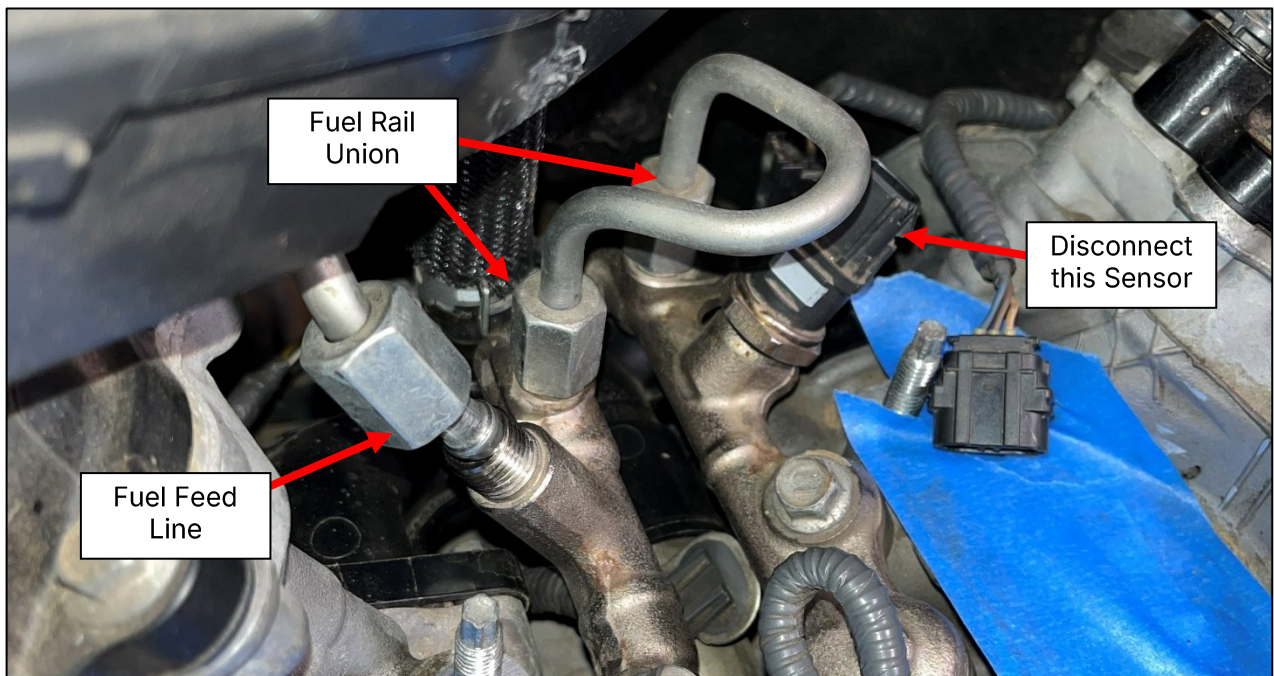

Figure 11
19. Disconnect the Union between both Fuel Rails towards the rear of the Engine. *Figure 11.*
20. Disconnect the Sensor on the Driver Side of the Fuel Rail. *Figure 11.*
21. Disconnect the Fuel Feed Line to the Fuel Rail on the Passenger Side. *Figure 11.*